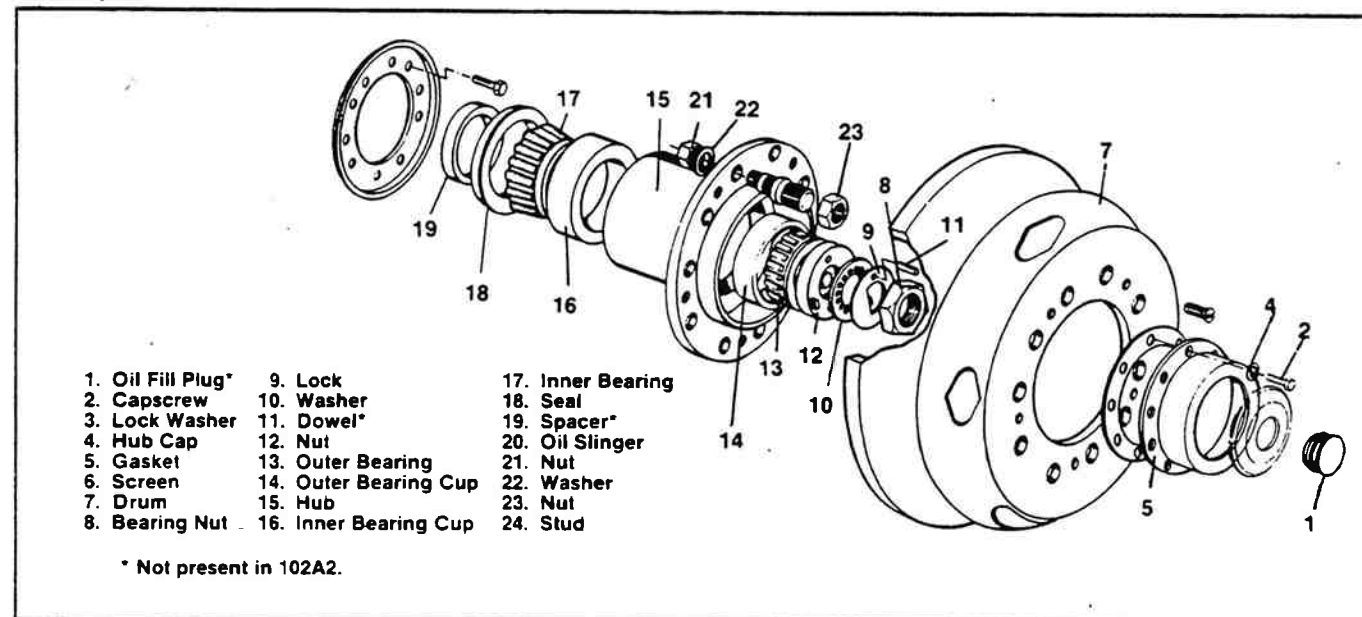

Figure 15-13. Front and Trailing Hub and Drum.
2. Remove brake drum-to-hub retaining screws and remove brake drum. See figure 15-13.